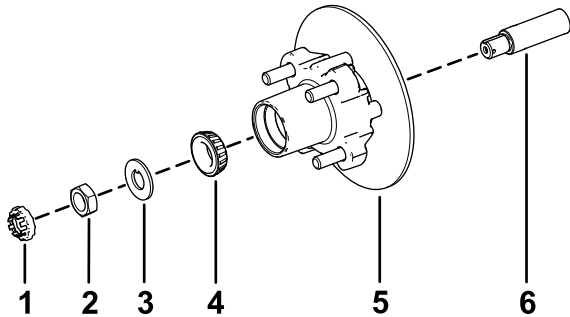

Figure 38
1. Apply a light coat of the specified grease to the spindle (Figure 38).
2. Assemble the hub and rotor onto the spindle with the rotor inboard (Figure 38).
3. Assemble the outboard bearing onto the spindle and seat the bearing to the outboard race (Figure 38).
4. Assemble the tab washer onto the spindle (Figure 38).
5. Thread the spindle nut onto the spindle and tighten the nut to 15 N·m (11 ft-lb), while rotating the hub to seat the bearing (Figure 38).
2. Align the brake pads to either side of the rotor (Figure 34) and the holes in the caliper bracket with the holes in the brake mount of the spindle frame (Figure 38).